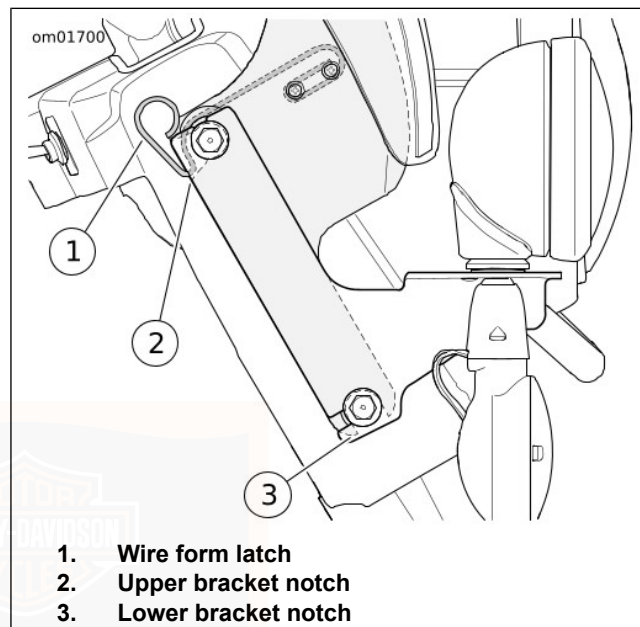

Figure 52. Windshield: FLHR, FLHRC
1. See Figure 52. Lift the wire form latch springs on both sides of the windshield bracket.
1. See Figure 52. Firmly seat the bottom of the windshield bracket to engage the lower grommets.